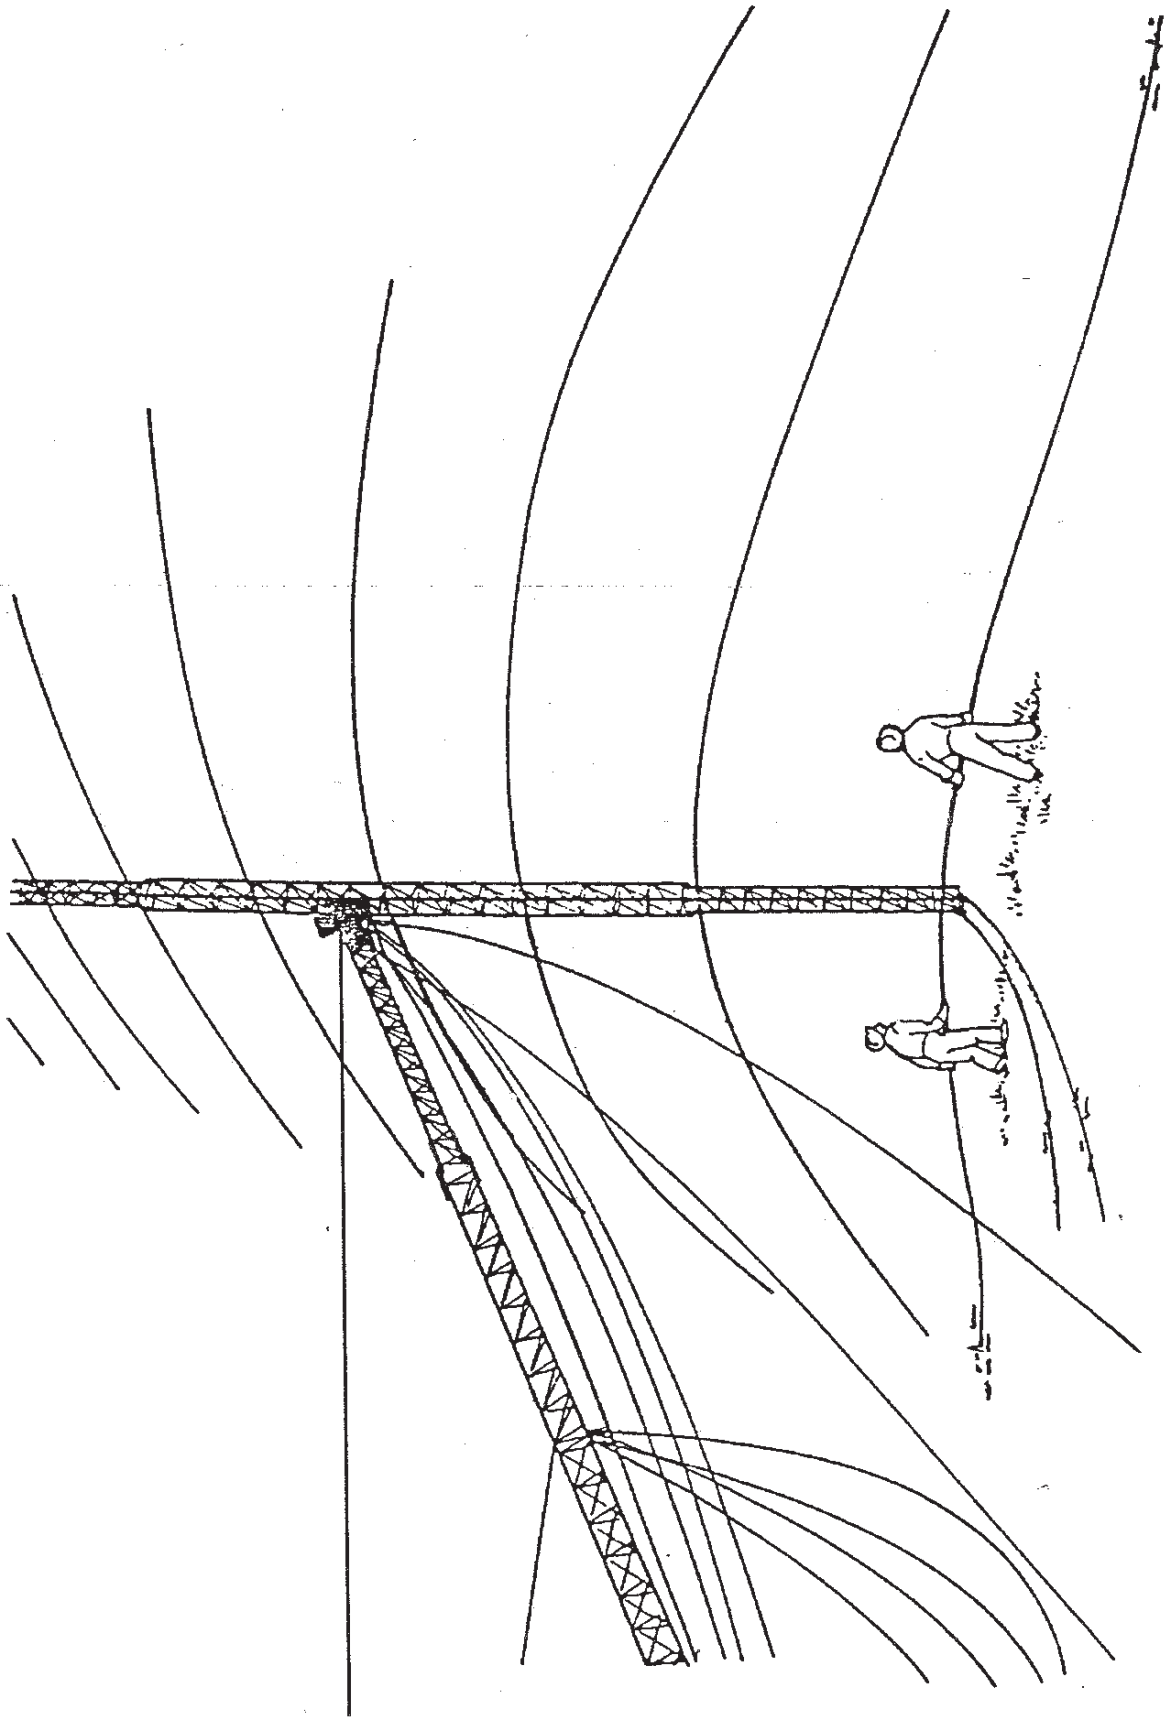

Figure 2-55
- g. One man hoists the tower and antenna system high enough to allow the second and fourth man to latch the antenna to the rotator-to-boom plate by pushing the rear end of the antenna boom away from the tower as shown in Figure 2-55.